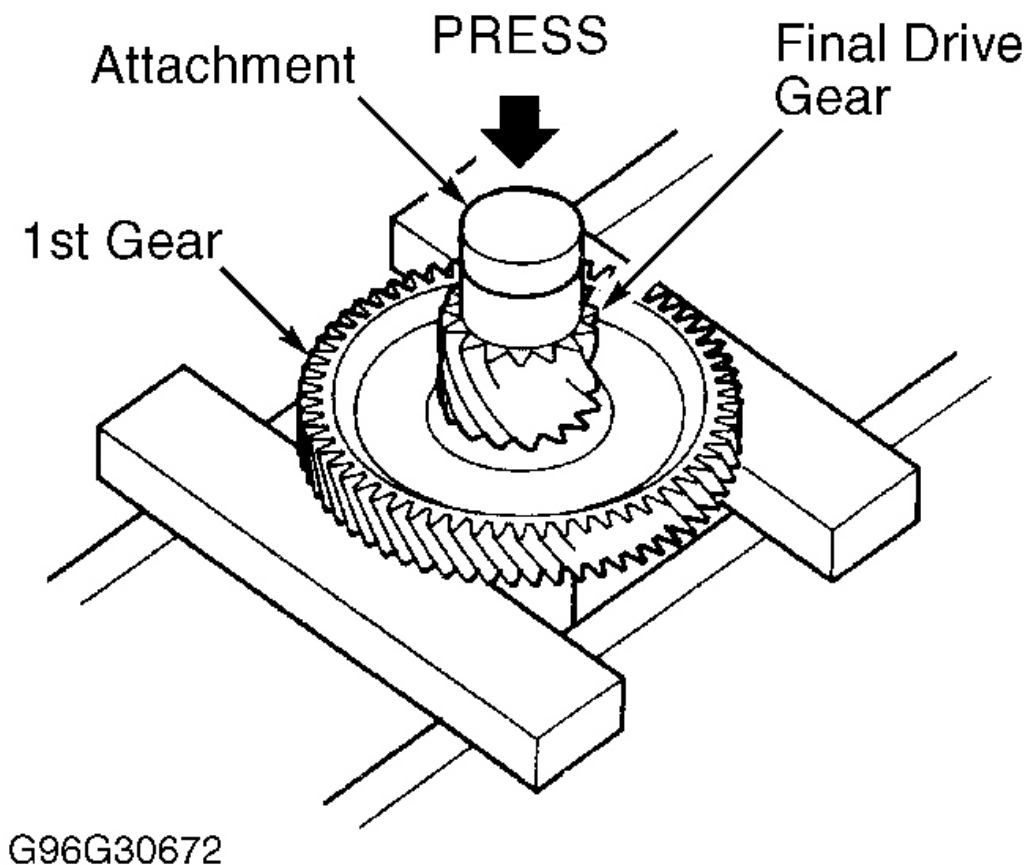

Fig. 22: Installing 1st Gear
1. Lubricate all parts with ATF. Align splines of 1st gear with splines on countershaft and press on until gear contacts final drive gear. See **Fig. 22** .